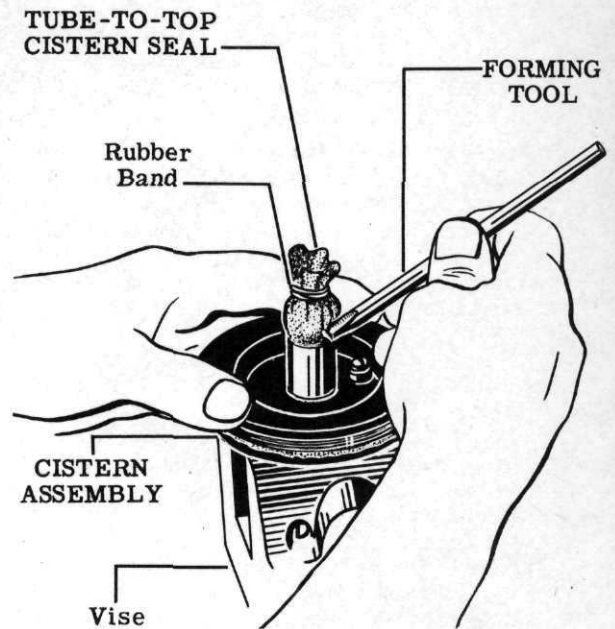

Figure 46
50. With the cistern assembly held in a vise, stretch the tube-to-top cistern seal over the neck of the top cistern. Using the forming tool (Tool No. 12), push the seal down to the bottom of the shoulder on the top cistern neck. See Fig. 46. Hold the top of the seal closed by means of a rubber band. This will prevent entrance of dirt or dust into the cistern assembly.